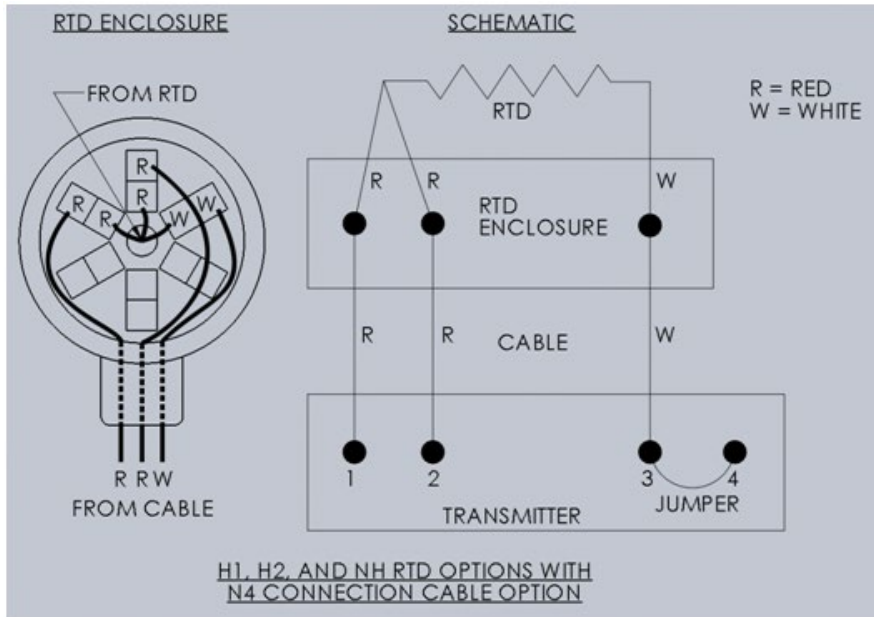

Figure 8. H1, H2, AND NH RTD WITH N4 CABLE
- If a cable is supplied, thread it into the junction box and hook up the wires, red-to-red, red-to-red, and white-to-white, refer to Figures 8, 9, or 10. Clip the drain wire (un-insulated) off at the base. R, P, and T heads are typically not supplied with a cable.